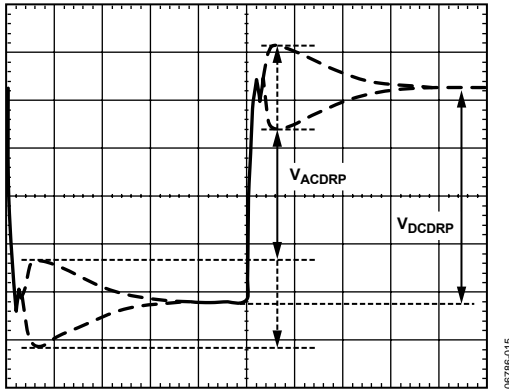

Figure 17. AC Load Line Waveform
14. Measure the output waveform (use dc offset on scope to see the waveform). Try to use a vertical scale of 100 mV/div or finer. This waveform should look similar to Figure 17.
15. Use the horizontal cursors to measure  $V_{ACDRP}$  and  $V_{DCDRP}$ , as shown in Figure 17. Do not measure the undershoot or overshoot that happens immediately after this step.